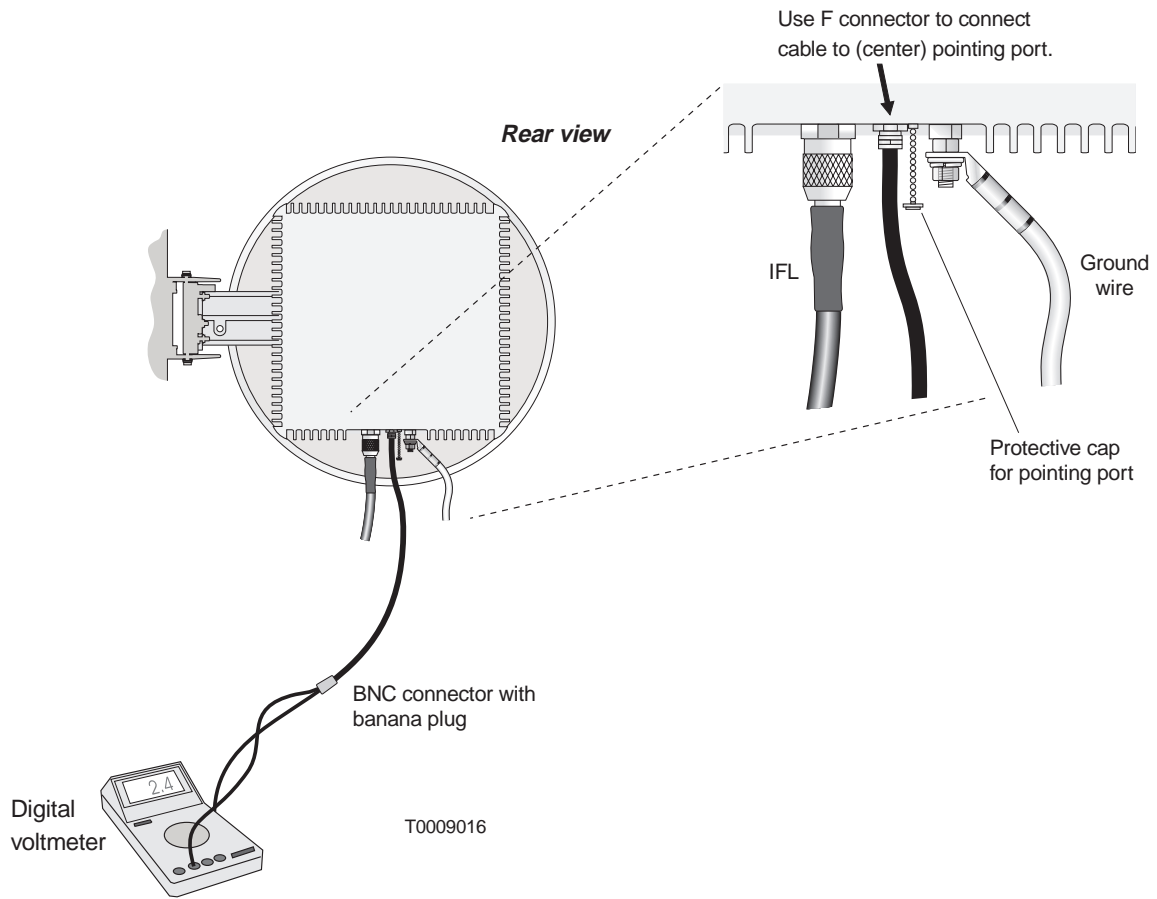

Figure 7-6 Connecting the digital voltmeter to the ODU
9. Connect a digital voltmeter to the F connector on the ODU, as shown in figure 7-6, and select the 0 to 10 volt or 0 to 5 volt range.